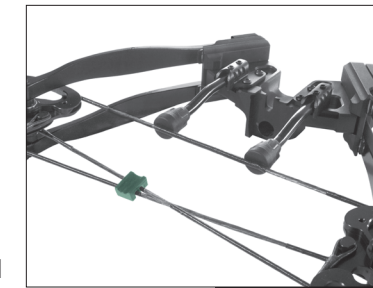

FIGURE 1
- 1** First, attach the cable slide (Part C) to the cables by clipping the two cables into the two grooves in the cable slide. The wider end of the cable slide should face towards the back of the crossbow and the cables should cross on the right side of the riser, as pictured in Figure 1.